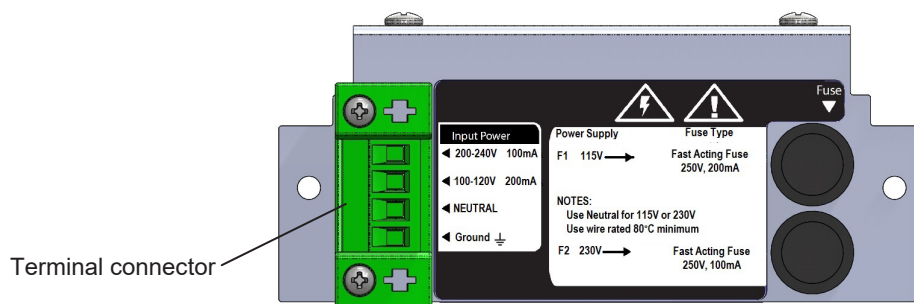

Figure 2.5 Terminal Connector Location
5. Wire the power cable to the green screw terminal connector from the options kit. Select correct terminal for hot conductor depending on line voltage. Refer to Figure 2.5 for terminal connector location.